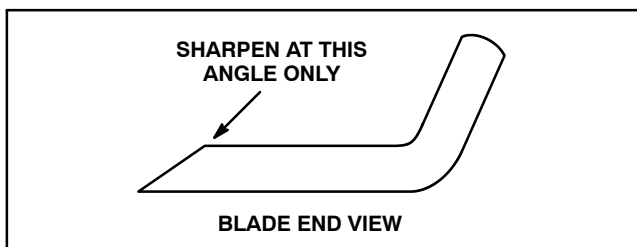

Figure 12
3. Inspect cutting edges of all blades. Sharpen the cutting edges if they are dulled or nicked. Sharpen only the top of the cutting edge and maintain the original cutting angle to make sure of sharpness (Fig. 12). The blade will remain balanced if the same amount of metal is removed from both cutting edges.